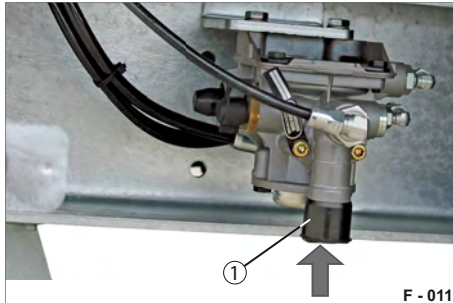

Fig. 14 Releasing service brake
- ▶ Press the release valve (Fig. 14/1).